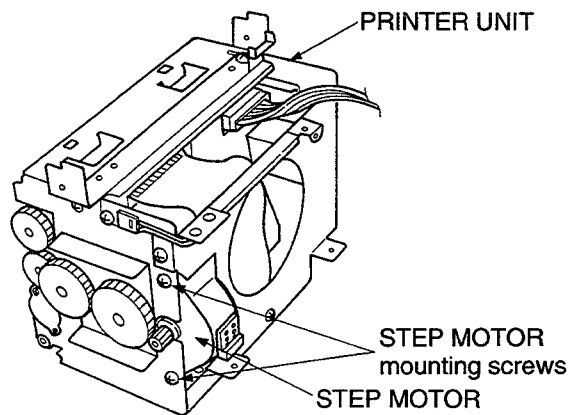

Fig.2-1
2. Remove the 2 screws securing the STEP MOTOR. (Fig.2-1)